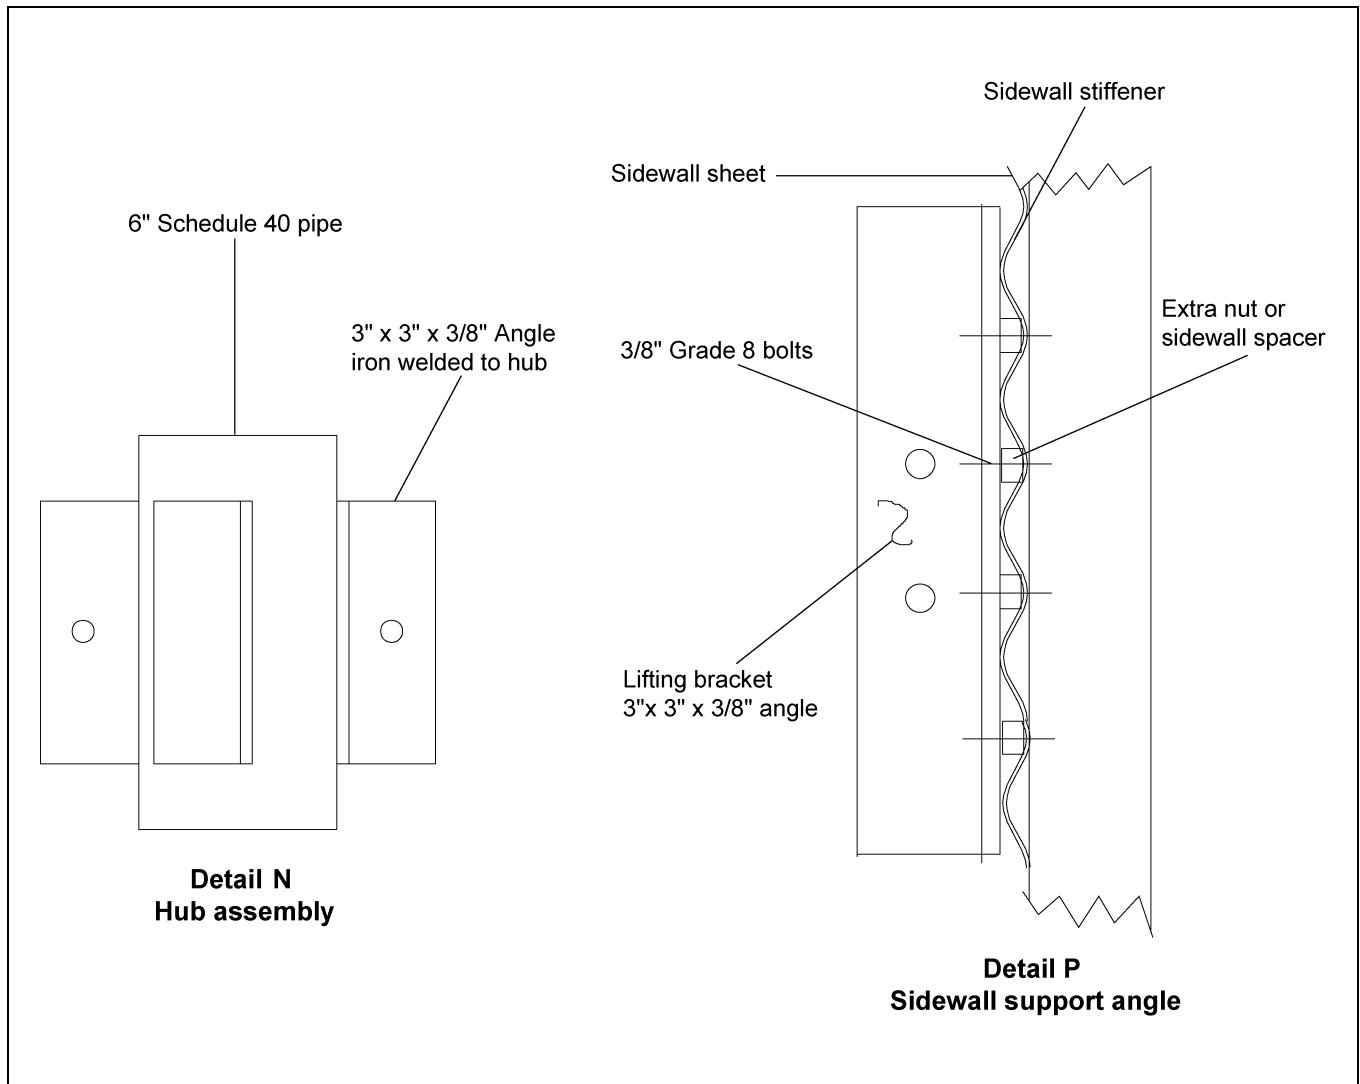

Figure 16C
- b. To prevent distortion of the assembled tank a “spider” or horizontal bracing is recommended. A suggested method of this is illustrated in the following details. This may be done by using a center “hub” and pipe. The center hub would typically be made of 6" schedule 40 pipe with 3" x 3" x 3/8" angle welded to it and the pipe bolting to the hub. The second smaller pipe would bolt to the lifting brackets attached to the stiffeners. (See Figure 16C.) Typical number of horizontal members that should be used are listed in the *below* chart.